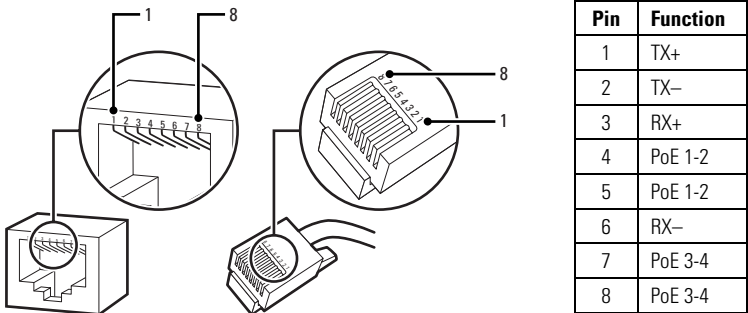

Figure 3. Pin Descriptions
- Connect the network cable to the RJ-45 network port located at the back of the camera (refer to Figure 3).
NOTE: If the network has no Power over Ethernet (PoE), connect a 24 VAC Class 2 power supply to the 24 VAC power connector (refer to Figure 3).